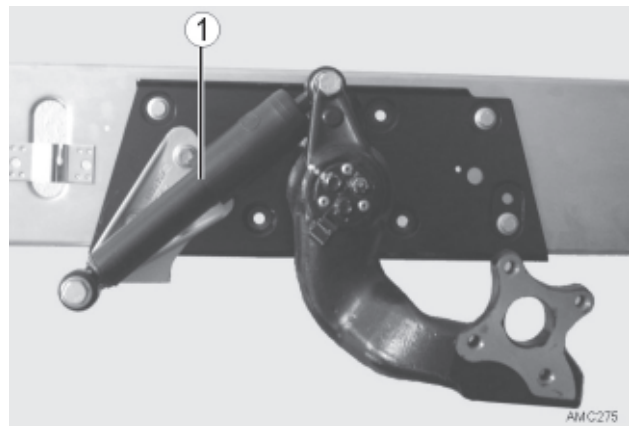

Fig. 56
6. Remove shock absorber (Fig 56 - 1) as per chapter 4.3.